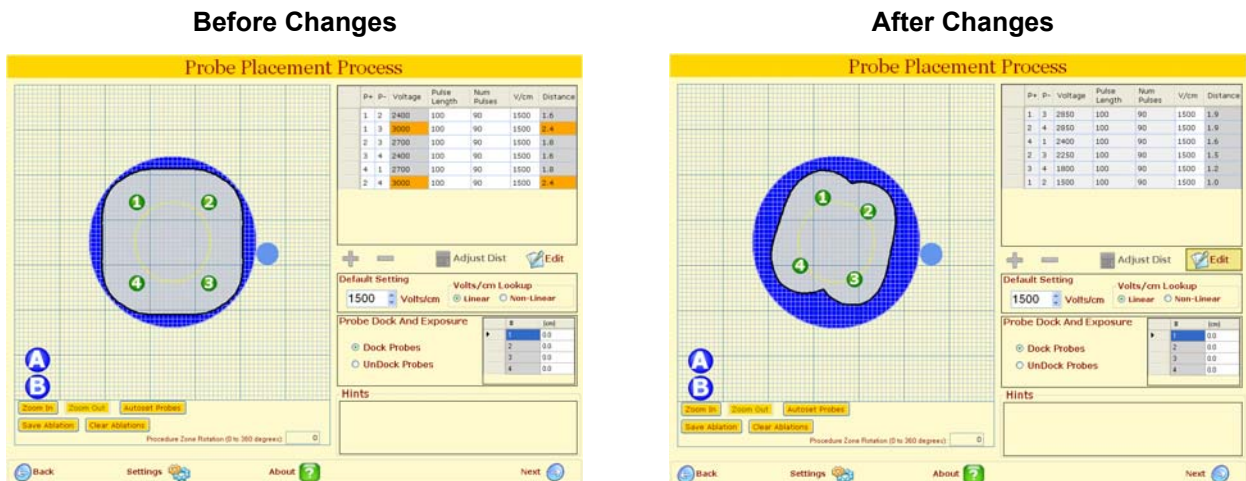

Figure 5-34: Before and After Using Probe Distance Adjuster
5. The probes will automatically move in the **Probe Placement Grid** to reflect the changes inputted in **Procedure Spreadsheet** via the Probe Distance Adjuster, Figure 5-34.